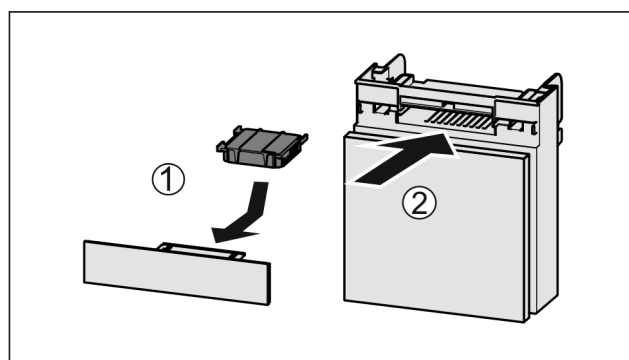

Fig. 172
- Insert the carbon filter as shown in the diagram Fig. 172 (1).
- Push the compartment in Fig. 172 (2).